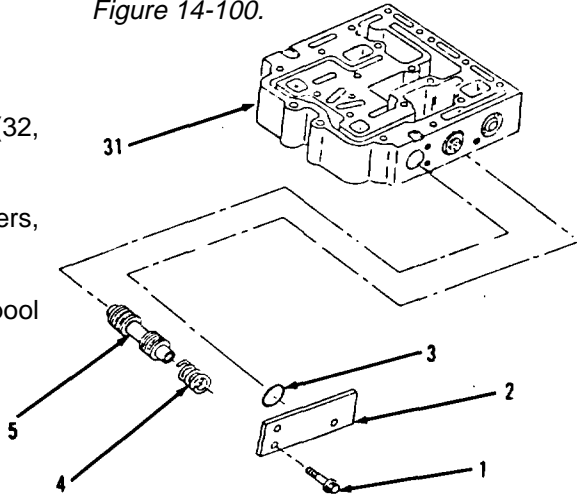
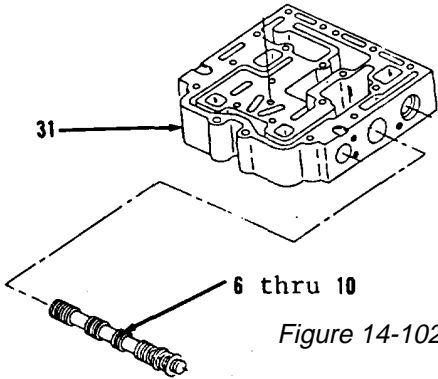

Figure 14-101.
Figure 14-102
- 2. Remove bolt (1) and cover (2) from body (31, Figure 14-101).
- 3. Remove and discard preformed packing (3) from cover (2).
- 4. Remove spring (4) and spool (5) from body (32).
- 5. Remove items 6 thru 10 as an assembly from body (32, Figure 14-102).